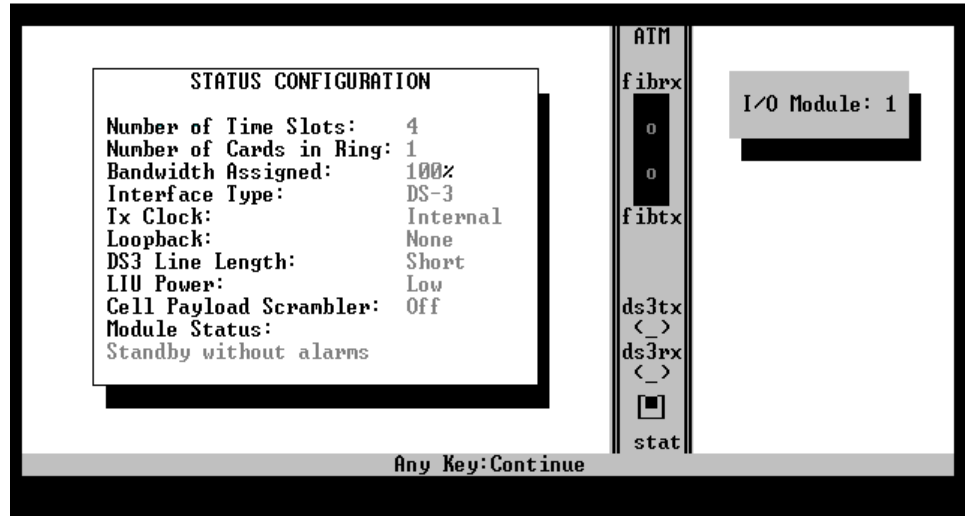

Figure 3-18. Example of Status Configuration Screen
3. Choose **C:onfiguration**. Figure 3-18 is displayed. Table 3-5 describes the fields.